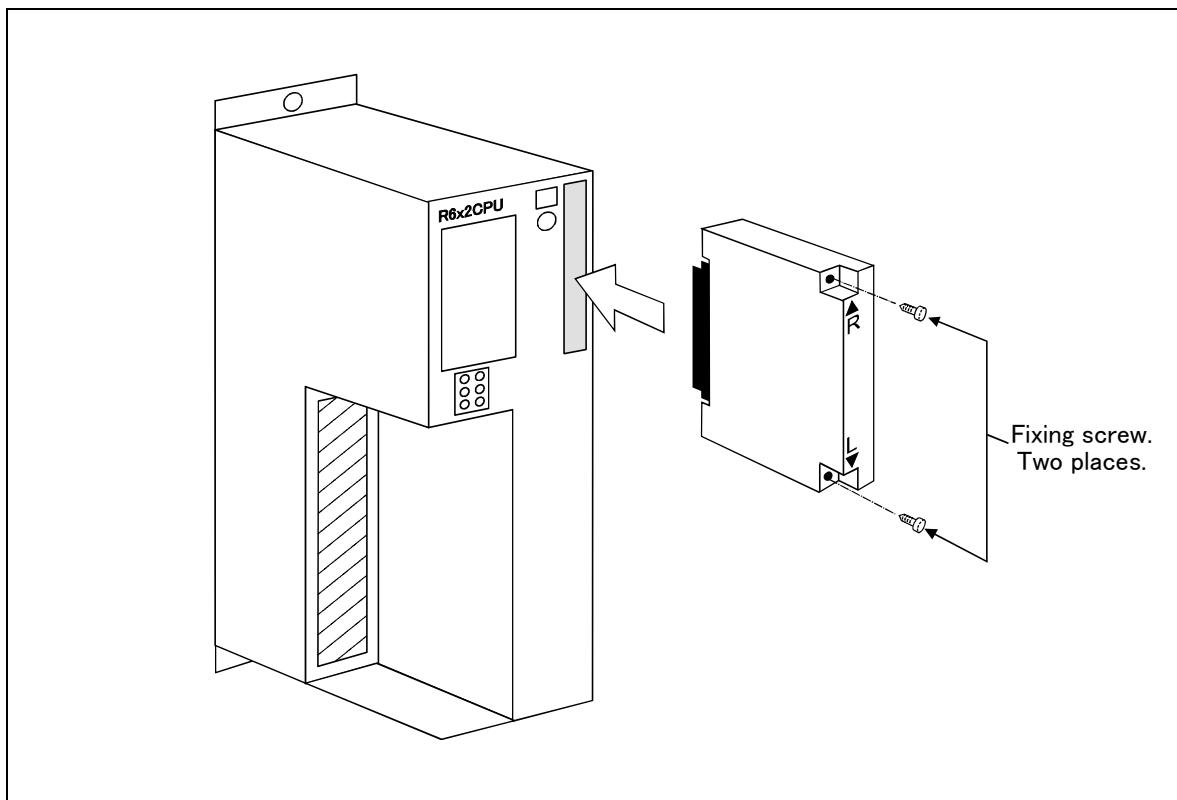

Fig.3-38 : Installation of extension memory cassette
- As shown in Fig. 3-38, insert the memory cassette all the way to the back with the "▲" facing up.